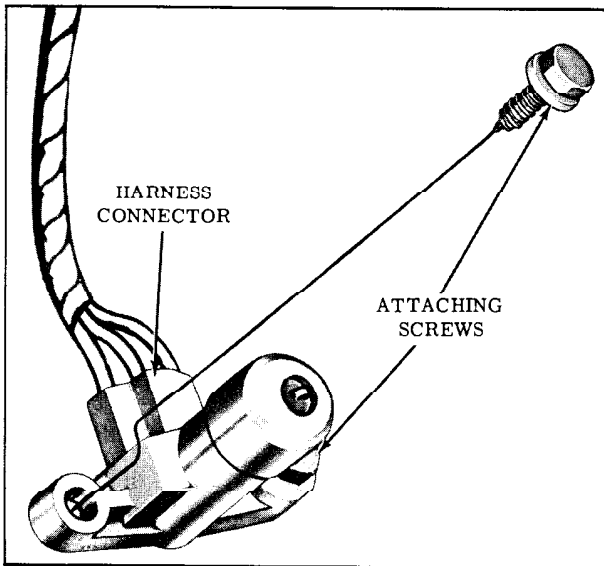

Fig. 13-92 Dimmer Switch
2. Disconnect wire connector from dimmer switch. (Fig. 13-92)